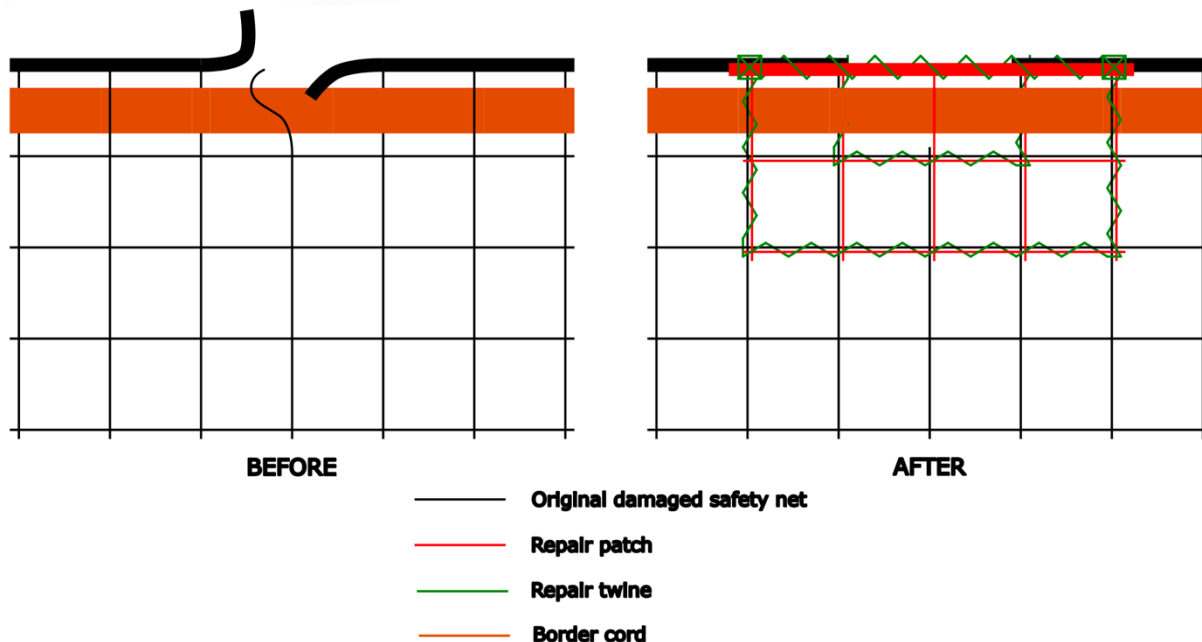

Figure 3. Repair to damaged selvage using repair twine.
- By lacing repair twine through both the inside and perimeter meshes of the patch (Figure 3).